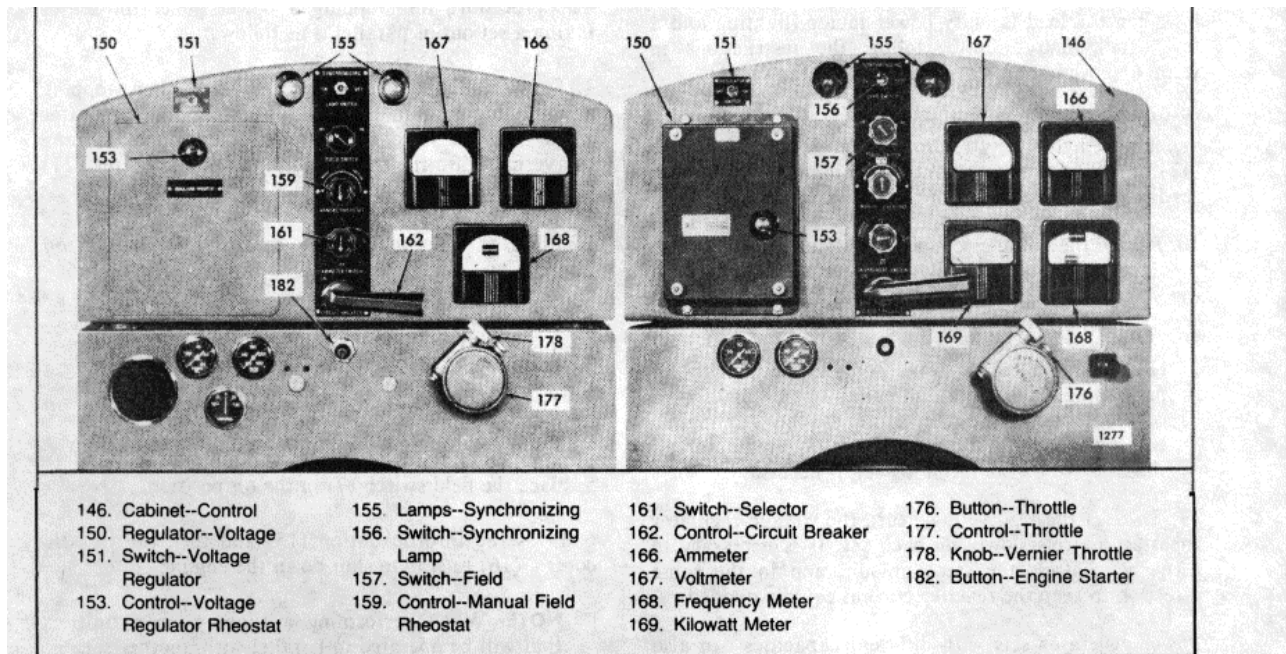

Fig. 1. - Typical Alternating Current Generator Control Cabinets
4. Refer to Fig. 1 and place the circuit breaker (10) in the off position.
5. Place the field switch (7) in the off position.
6. Place the synchronizing lamp switch (6) in the off position.
7. Place the voltage regulator switch (3) in the off or manual position.
8. Turn the field rheostat knob (8) clockwise to its lower limits.
Press the throttle button (15) and turn the throttle control (16) counterclockwise to a position midway between run and stop (Fig. 1). Then, press the starter button (18) firmly.
1. Bring the engine up to rated speed. Then place the field switch (7) in the on position (Fig. 1).
2. Turn the voltage regulator switch (3) on.
3. Turn the instrument selector switch (9) to the desired position.
4. Turn the field rheostat (8) slowly in a counterclockwise direction to raise the voltage, while watching the voltmeter, until the rheostat reaches the end of its travel. The voltage regulator will take control of the generator voltage as the field rheostat reaches the end of its travel.
5. If the power generator unit is equipped with a frequency meter, adjust the engine speed with the vernier throttle knob (17) until the desired frequency is indicated on the meter.
6. Adjust the voltage regulator rheostat (4) to obtain the desired voltage.
7. Make sure all power lines are clear of personnel, then place the circuit breaker control (10) in the on position.
2. Check the voltmeter (12) the voltage must be the same as the line voltage (Fig. 1). Adjust the voltage regulator rheostat control (4) if the voltages are not the same.
3. Place the synchronizing lamp switch (6), of the generator set to be paralleled, in the on position.
4. Turn the vernier throttle knob (17) until both sets are operating at approximately the same frequency, indicated by the slow change in the brilliancy of the synchronizing lamps.
1. Turn off all the load on the generator when stopping a single engine unit. Shift the load from the generator when taking a set out of parallel operation by turning the vernier throttle knob (17), until the ammeter (11) reads approximately zero (Fig. 1).
2. Place the circuit breaker control (10) in the off position.
3. Turn the field rheostat (8) to the fully clockwise position.
4. Turn the voltage regulator switch (3) to the off position.
6. Press the throttle button (15) and turn the throttle control (16) to stop to shut down the engine.